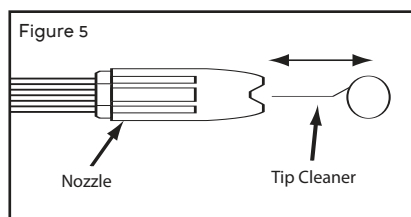

FIGURE 5 - INSERT TIP CLEANER IN NOZZLE HOLE AND MOVE BACK AND FORTH UNTIL DEBRIS IS DISLODGED
- Using included tip cleaner, or an unfolded paper clip, insert wire into the nozzle hole and move back and forth until debris is dislodged. (See Figure 5.)